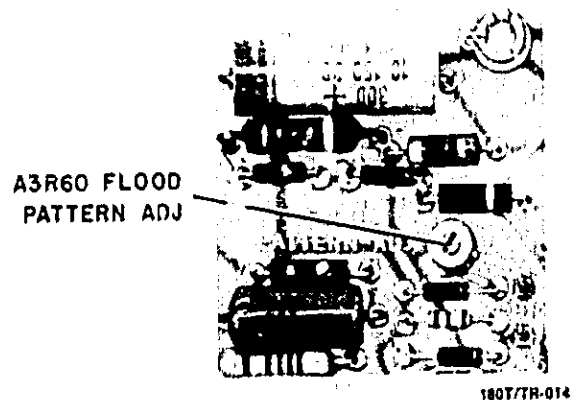

Figure 5-9. Flood Gun Adjustment Location
- c. Adjust Flood Pattern Adj, A3R60, for uniform illumination intensity when SCALE control is varied throughout its full range (see figure 5-9).